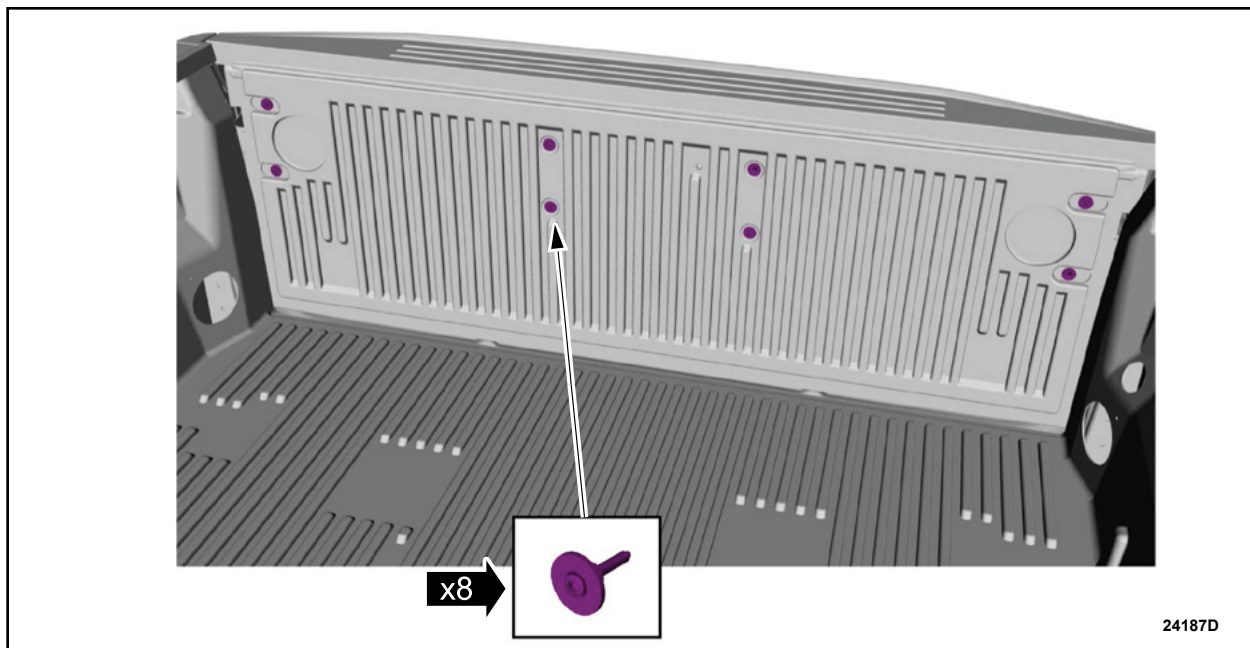

FIGURE 1
1. If equipped, remove the screws and the tailgate liner and access panel from the tailgate. See Figure 1.